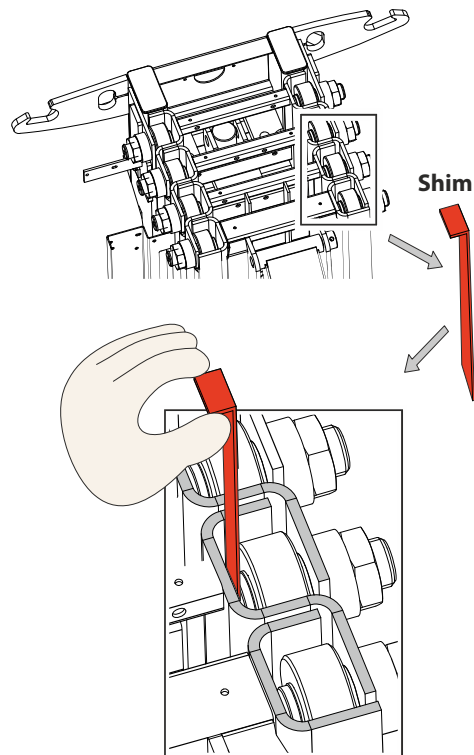

Figure 5-24. Adjusting Top Roller Play
3. On each top roller, on right side of the machine, loosen roller to be able to insert a 0.5 mm shim (between roller pad and mast profile), see Figure 5-24.